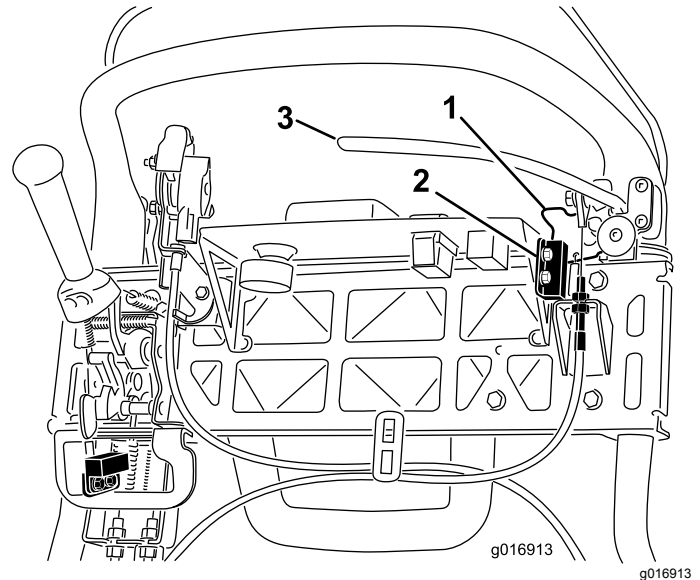

Figure 42
4. Loosen the interlock switch mounting fasteners (Figure 42).
5. Place a 1.6 mm (0.062 inch) thick shim between the parking-brake latch and the interlock switch (Figure 42).